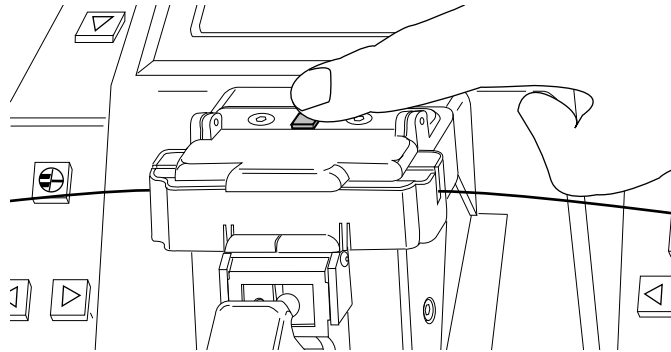

Figure 50
- d) Close the cover. Push the yellow button on top of the heater to begin the heat cycle (Figure 50). The red LED will glow while the heat cycle is on. (The heater can be turned off by pushing the yellow button again).